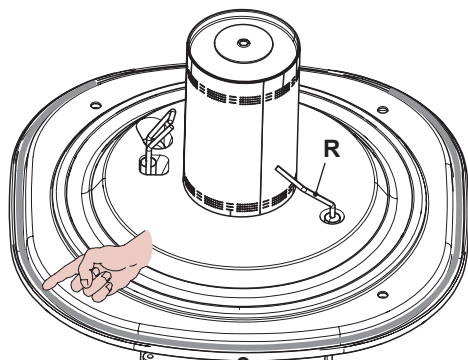
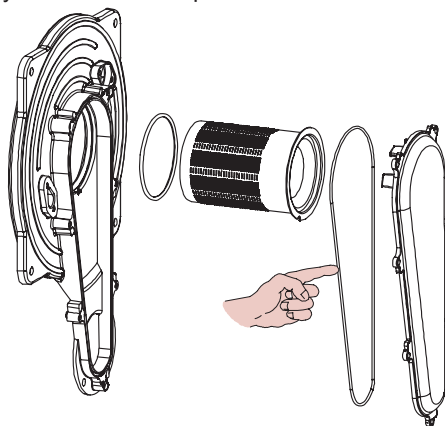

Fig. 9.13
Fig. 9.15
- The detection electrode R in Fig. 9.13 also functions as a sensor for the correct drainage of the condensate. Should the mentioned electrode come into contact with the condensate water present within the combustion chamber it sends the boiler into safety lockout. Therefore, should the insulation be wet or deteriorated, provide for the substitution of the same.
Caution: After any periodical servicing or disturbance the combustion chamber silicon seal Fig. 9.13 and the Air-gas duct gasket (Fig. 9.15) must be fully inspected and replaced at the discretion of the service engineer.